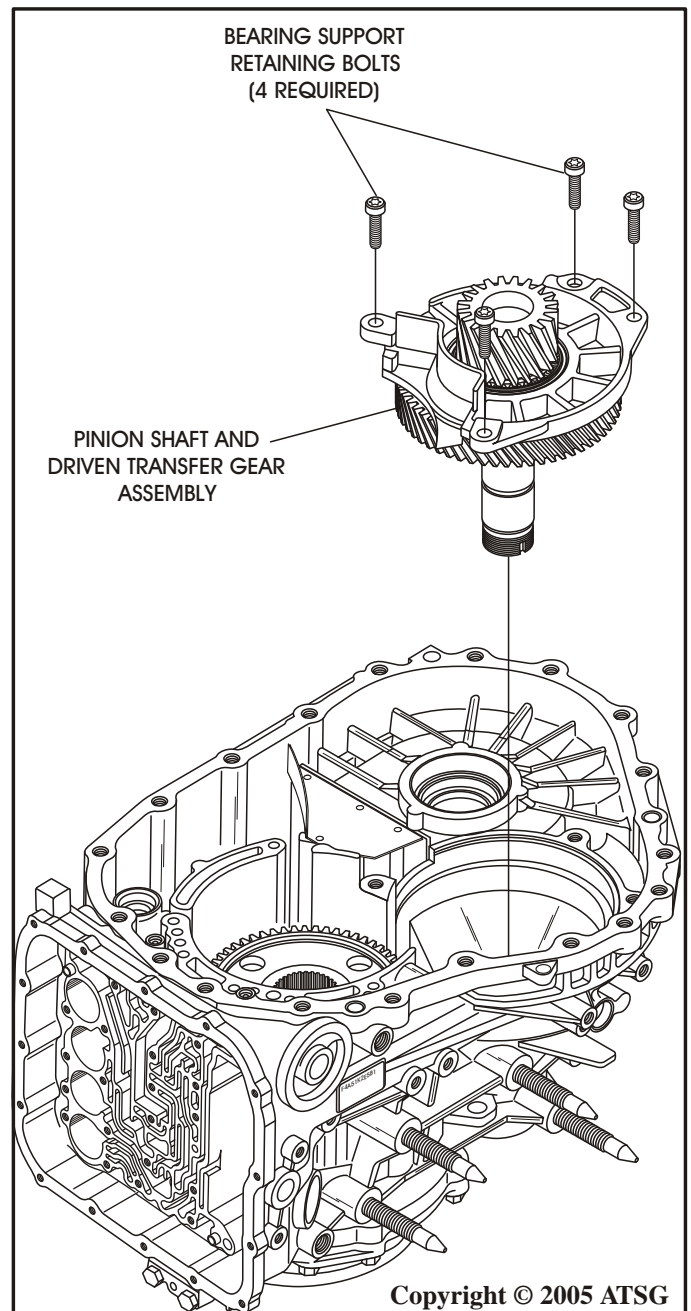

Figure 60
78. Remove the four pinion shaft support to case retaining bolts, as shown in Figure 60.
79. Remove the pinion shaft and transfer gear as assembly, as shown in Figure 60, by tapping on the rear of pinion shaft with hammer and punch.